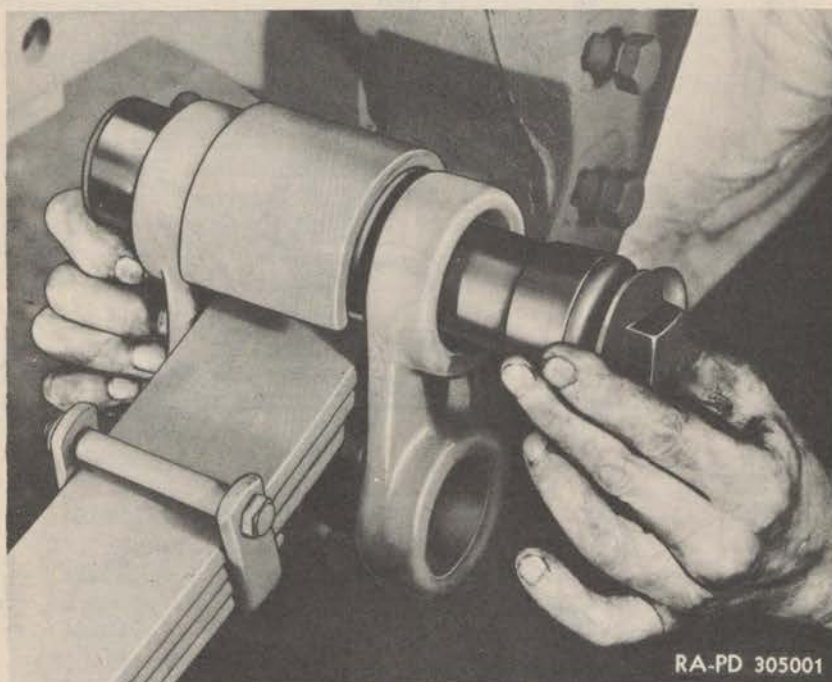

Figure 147—Installing Spring Shackle Rubber Bushings
(2) **INSTALL SPRING ASSEMBLY.** Slide the spring assembly into position engaging the rear spring eye with the upper end of the shackle attached to the rear hanger. Then wipe the rubber bushings with hydraulic brake fluid and push these into place between the shackle, and spring eyes from each side. Then drive the upper shackle pin through the rubber bushings. Install a washer over the threaded end of the shackle pin and then replace the shackle pin nut. Do not tighten the nut (fig. 147).